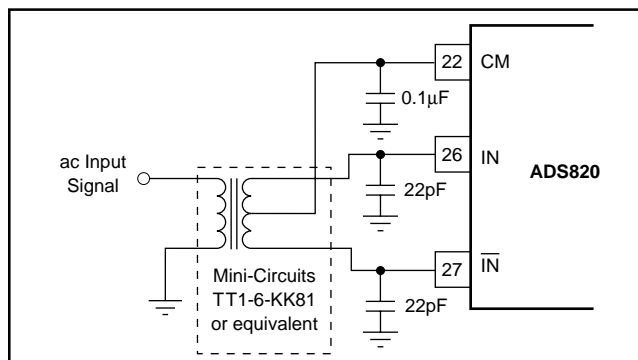

FIGURE 4. AC-Coupled Single-Ended to Differential Drive Circuit Using a Transformer.
The ADS820 has a differential input with a common mode of +2.25V. For ac-coupled applications, the simplest way to create this differential input is to drive the primary winding of a transformer with a single-ended input. A differential output is created on the secondary if the center tap is tied to the common-mode voltage (CM) of +2.25V, as per Figure 4. This transformer-coupled input arrangement provides good